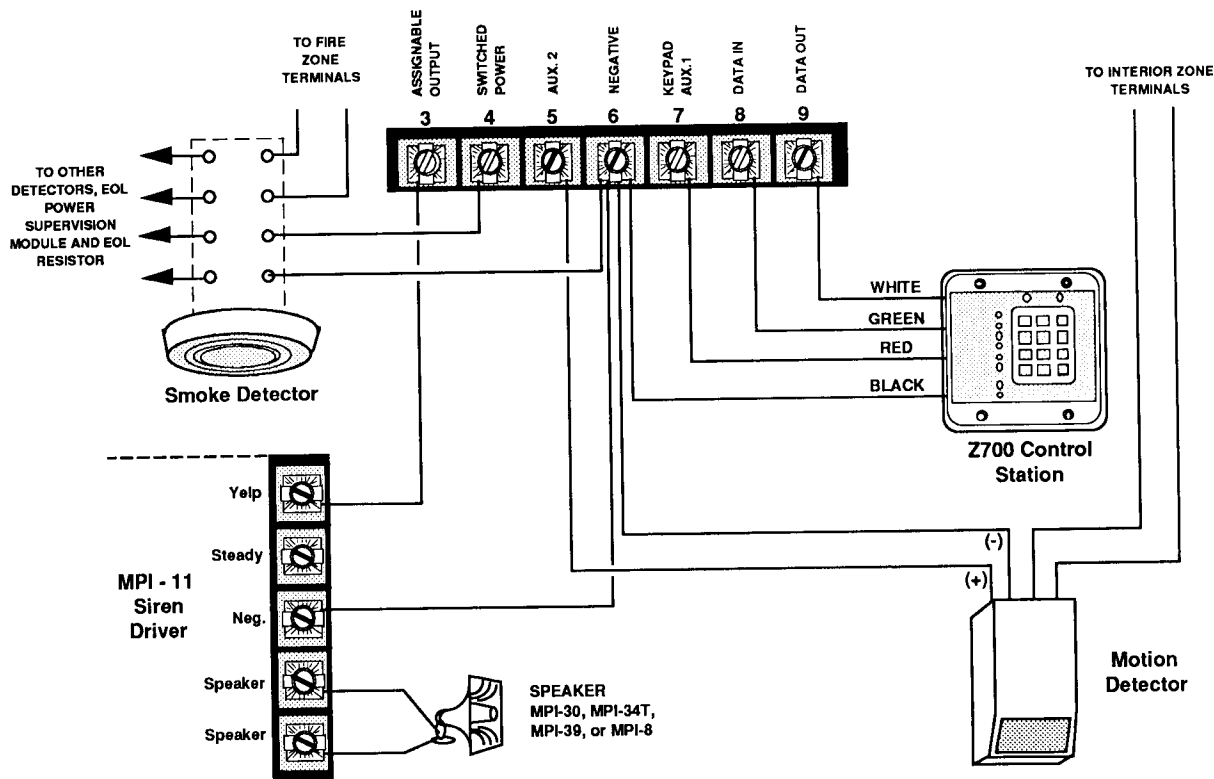

FIGURE 10 +12VDC CONTROL OUTPUTS †
Provides (+)12volts DC power for smoke detectors (see ff note on page i) and other devices that require momentary power interruption to reset. The power from this output can be momentarily interrupted (to reset smoke detectors, glass breakage detectors, shock sensors, etc.) by pressing the "7" key and holding for three seconds. Each time the control does an automatic 24 hour test, power from this output will be removed for 5 seconds. For this reason, Switched Power should not be used to power any device that will trigger an alarm upon interruption and restoral of power. This output is fused at 2.5 amperes by fuse F2 which is also used to fuse the Keypad Power/Auxiliary 1 output (terminal 7). Do not exceed the current drain limitations as indicated in Table 10, page 42. See Figure 10 for a hook-up example.
Used to provide (+)12 volts DC power for motion detectors and other devices requiring uninterruptable power. This output is protected by a 2.5 ampere fuse (F1) which is also used to fuse the Assignable Output (terminal 3). Do not exceed the current drain limitations as indicated in Table 10, page 42. See Figure 10 for a hook-up example.
Used to supply (+)12 volts DC power for control stations. This output is fused at 2.5 amperes by fuse F2 which is also used to fuse the Switched Power output (terminal 4). This output may also be used to supply auxiliary power for motion detectors and other devices provided the total current draw does not exceed the limits as set by Table 10, page 42. See Figure 10 for a hook-up example.
Assignable through programming (Function 256) to provide a (+) 12volt DC output upon any or all designated alarm conditions. If this output is not used for output upon alarms, it may be assigned to any ONE of the following other conditions: Switched Power reset (key 7)/24 hour automatic tests, access activation, supervisory/trouble conditions, or entrance pre-alarms and chime (key 6). If used to provide output upon alarms, it then must be defined as to the type of alarm condition(s) that will activate this output. This may include Burglar, Auxiliary "A", Auxiliary "B", or Auxiliary "C" alarms (or any combination) as selected through programming Functions 257-260. Sirens, bells, or other output devices may be connected directly to the Assignable Output (terminal 3) of the control provided they do not exceed the current drain limitations as indicated in Table 10, page 42. It may be desired to use this output for non-alarm conditions when using the optional Z729 Siren Driver/Output Expander. This output is protected by a 2.5 ampere fuse (F1) which is also used to fuse the Auxiliary 2 output (terminal 5). See Figure 10, page 10 for a hook-up example.